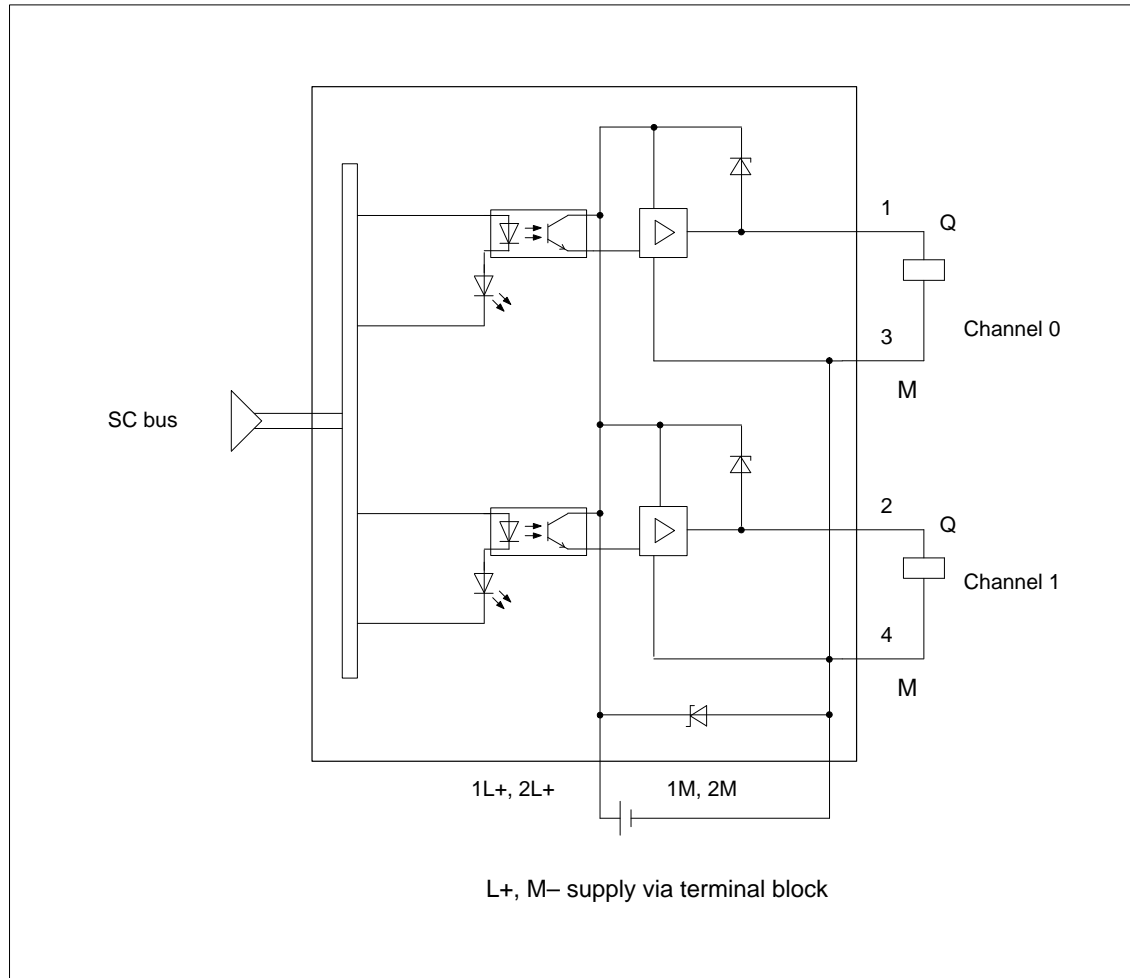

Figure 10-6 Block Diagram of the 2DODC24V2A Digital Electronic Module
**Block Diagram** Figure 10-6 shows the block diagram of the 2DODC24V2A digital electronic module.